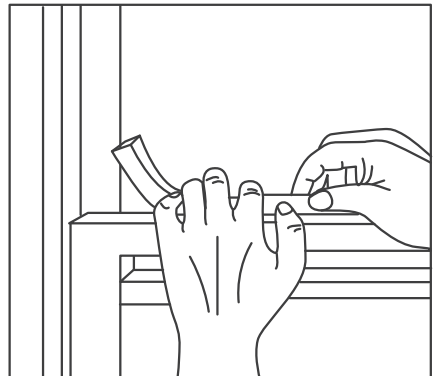

Fig.14
- For added insulation, cut the supplied insulation foam to the width of the window. Insert the foam between the window sashes to prevent air and objects from getting into the room. (See Fig.14)